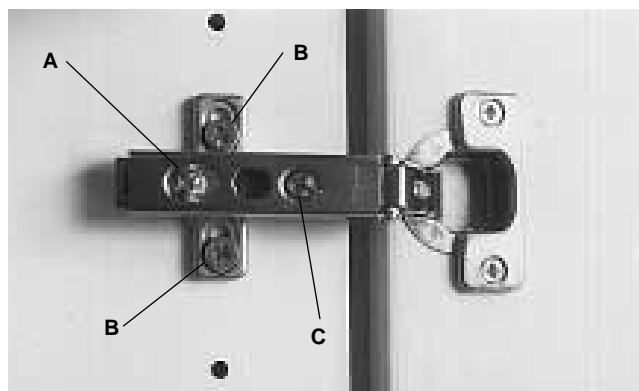

FIGURE 41
2. Refer to Figure 41 to locate the adjustment screws.